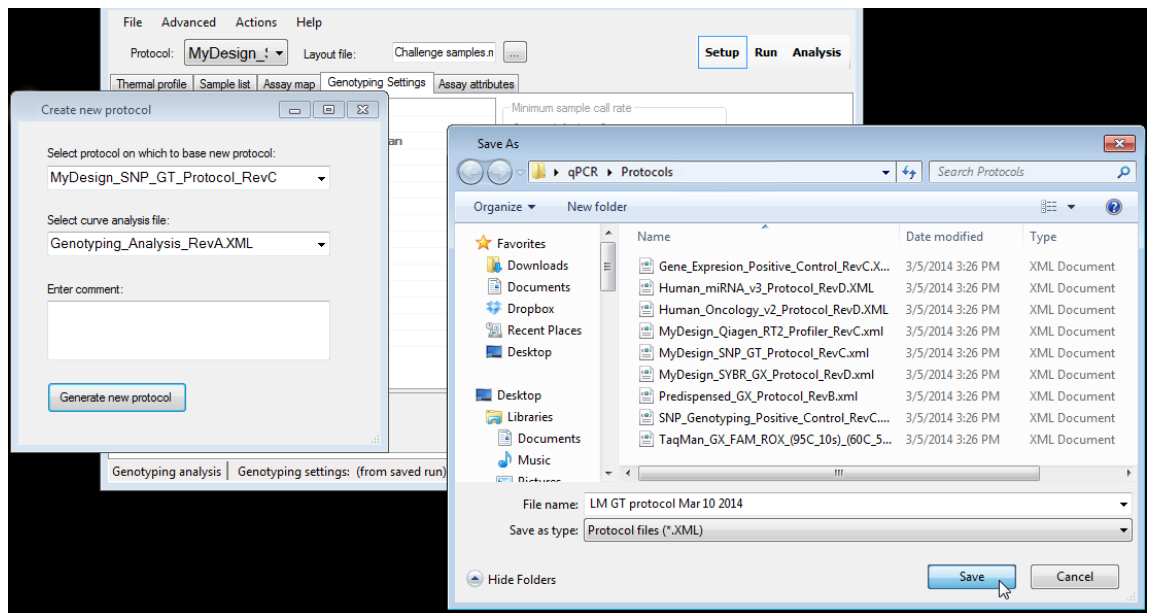

Figure 59. Saving your modified genotyping protocol.
- f. Click the [Generate new protocol] button and save the modified protocol file with a logical name (Figure 59).